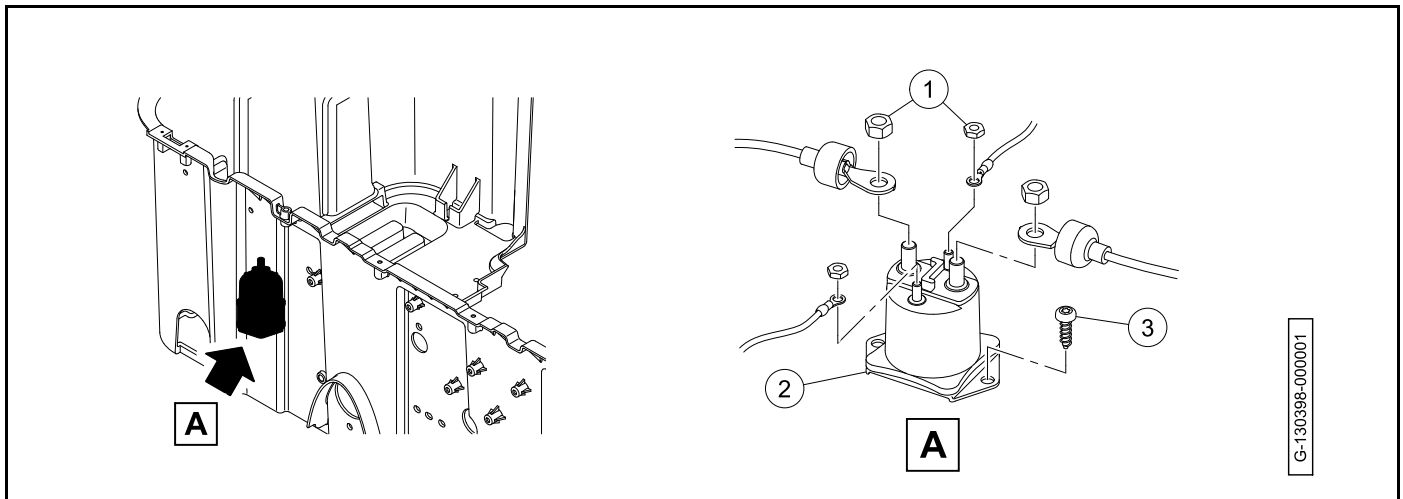

Figure 19-18 Solenoid Removal
2. Remove the nuts (1) from each post (**Figure 19-18, Page 19-19**).